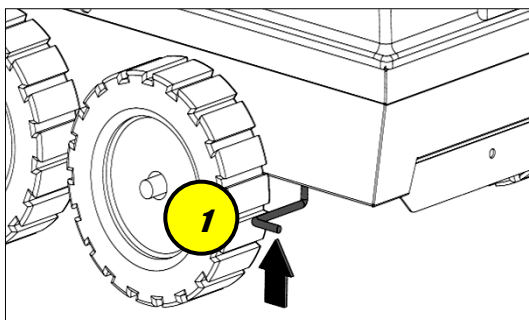
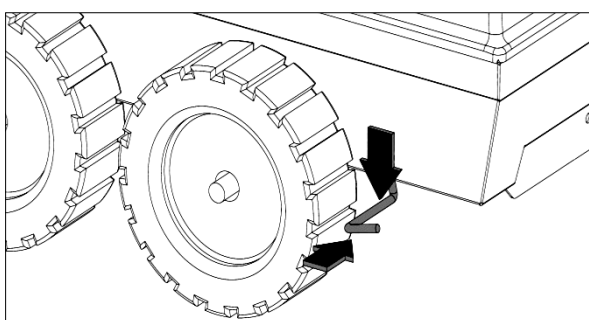

Figure 03
Figure 04
- d. SECURE THE MACHINE WITH THE BRAKE:** Before initiating any operation, position the machine on a firm, stable surface and secure the rear wheels 1 (fig.03). To remove the brake move the lever as in fig. 04.